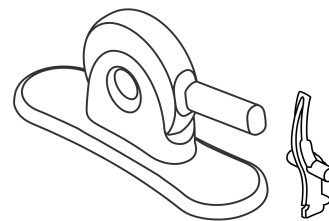

Figure 6: Edwards Crimper and 2-piece Crimp Stopper
• Edwards Crimper and Crimp Stopper (Figure 6)